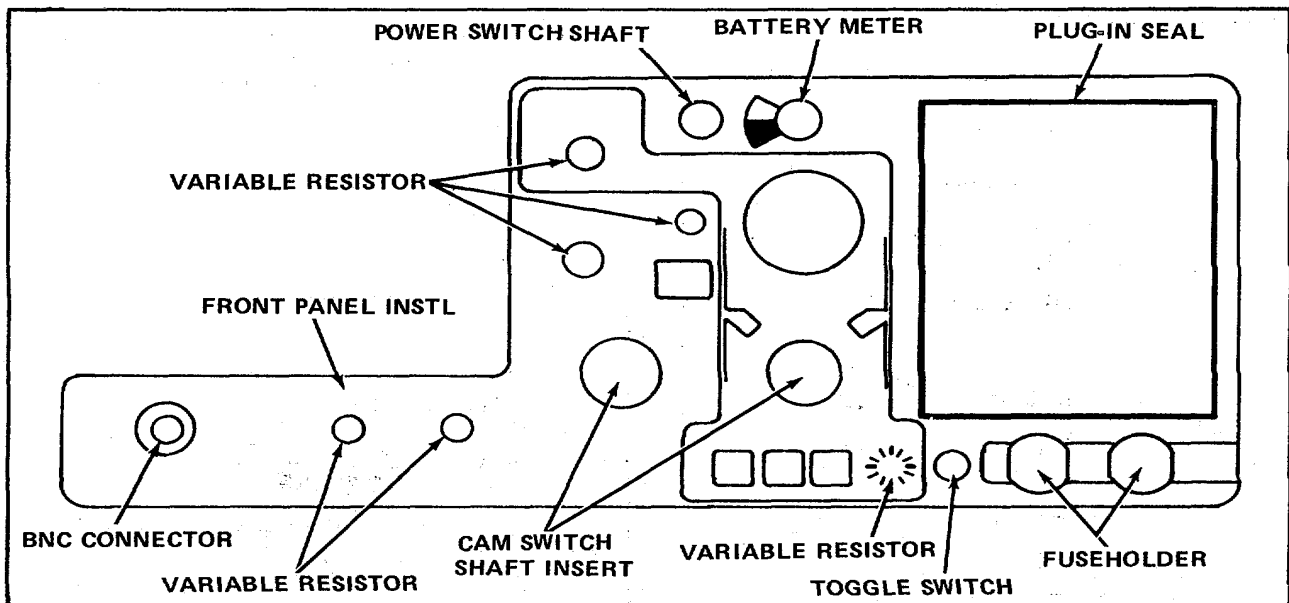

Figure 5-8. Front Panel, Identification of Parts For Assembly Step 8 Through 26.
**8. Preparation of Front Panel for assembly (see Fig. 5-8)**